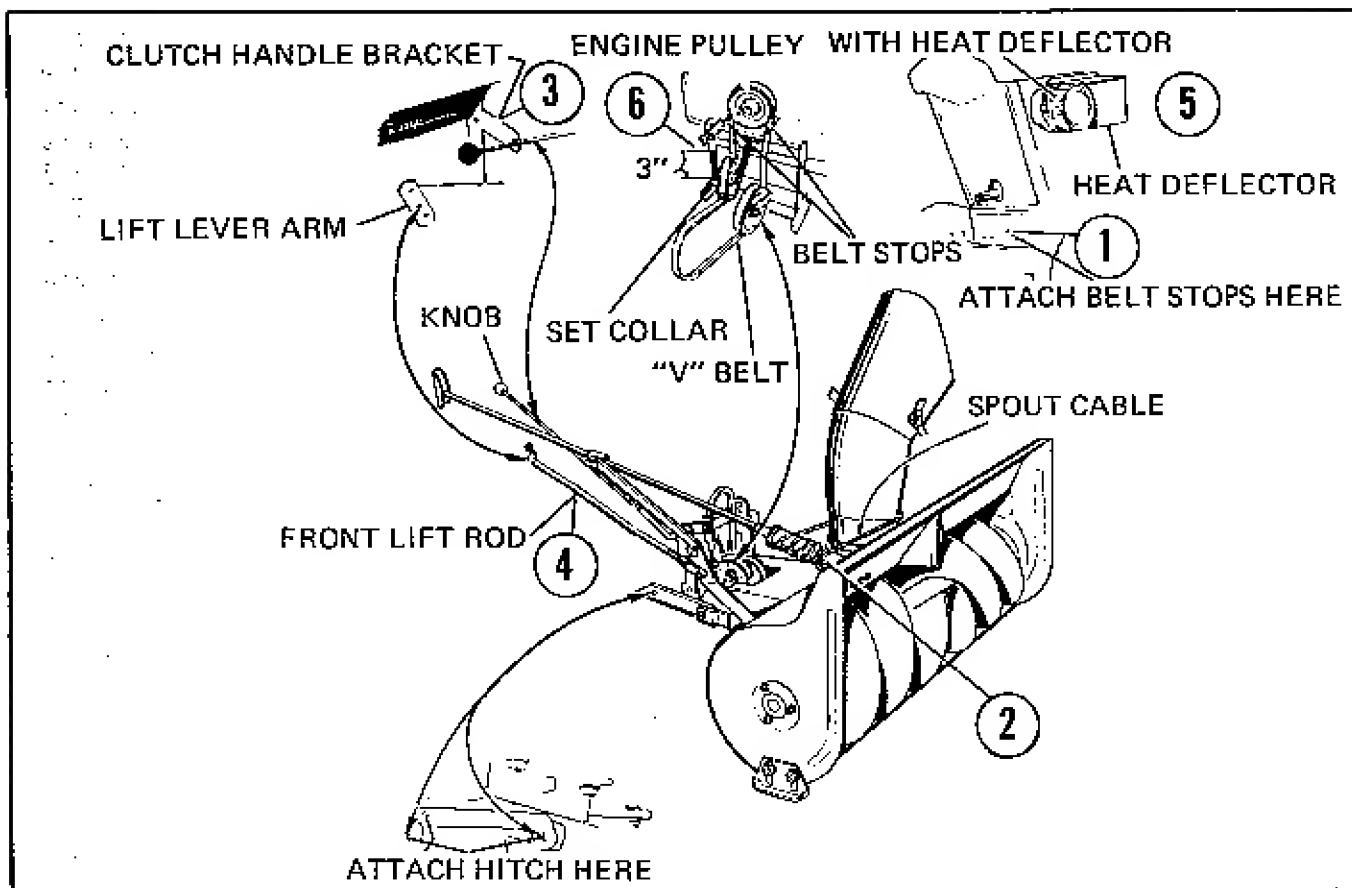
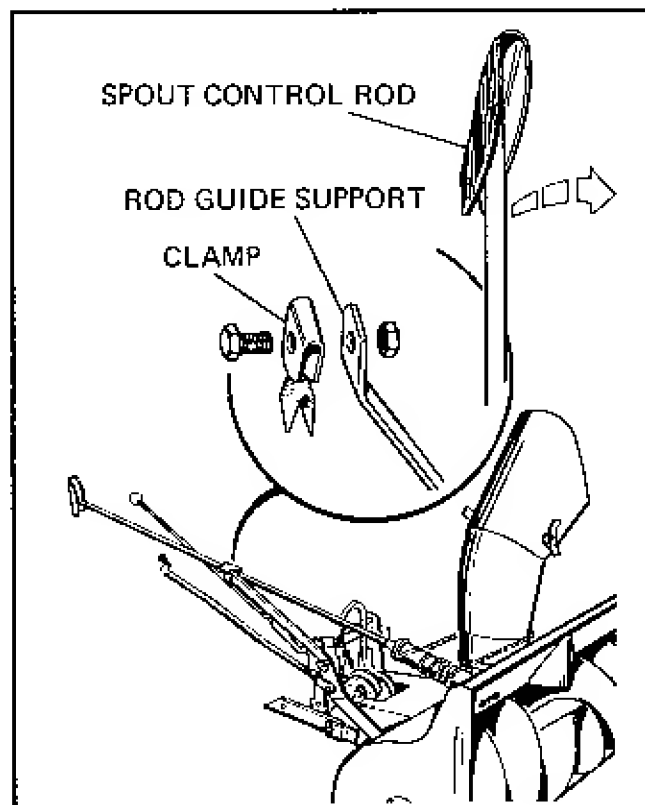

Figure 3.
Figure 4.
4. Remove the 5/16"-18 x 1-1/4" long hex capscrew, lock and plain washer from tractor directly below the front mounted power take-off shaft. Insert through the two belt stops and reassemble. Do not tighten. See (1), Figure 3. Right hand belt stop next to bolt head. Left hand stop next to tractor.
5. Attach hitch assembly to tractor with the two pins and two spring clips. See Figure 3.
6. Place belt around front mounted engine pulley. See Figure 3.
11. Position discharge spout directly forward. Position control tube so the cable clamp faces the side of the spout. Provide 2-1/2 coils on top and 2-1/2 coils on the bottom. The end of the cable closest to operator passes under the tube. The end away from operator passes over the top of tube. See (2), Figure 3. In order to insure tightness of the spout cable, it is helpful to slant the control tube slightly inboard in relation to the rod guide support as shown in Figure 4. Position the free ends of the cable around the spout and clamp securely with the cup washer, 5/16" lockwasher and 5/16"-18 full hex nut. Move the spout control rod back to the rod guide support and secure with the clamp, liner and 5/16"-18 x 1-1/4" capscrew and 5/16"-18 lock nut. Tighten securely to permit spout control rod to be turned with slight pressure applied.
13. Remove forward, top capscrew from right hand side panel. Insert clutch handle bracket between side panel and side member of fuel tank and steering post support assembly. Secure with same capscrew and lockwasher. See (3), Figure 3.
14. Insert clutch control rod through bracket and attach to clutch pivot and secure in place with spring clip. See (3), Figure 3.
15. The lift lever quadrant on the left side of the tractor contains a series of holes and a pin. Place the pin in the foremost hole of the quadrant and secure in place with spring clip. Release the lift lever and place in a forward position. Attach the yoke end of front lift rod to the lift lever arm using lower hole, on the right hand side of the tractor with yoke pin and spring clip. Insert lower end of lift rod into lift arm bracket of push bar and secure with spring clip. The lower end of the front lift rod is to point towards the tractor. See (4), Figure 3.
16. Position heat deflector over the muffler and adjacent to the engine. Flap of deflector to be positioned against air cleaner. Secure with clamp provided. See (5), Figure 3. this deflector is provided for winter use only and must be removed in warm weather to prevent overheating and damaging of engine. The deflector directs a flow of warm air around the carburetor and allows for more efficient winter operation of the tractor engine.
With belt disengaged, the spring (6), Figure 3, should be compressed to 3". Additional adjusting must be done by re-positioning the set collar located at the bottom of the spring. If adequate belt slack cannot be obtained, only then is it recommended to re-position the bearing housing (Ref. Let. AJ Page 8) towards operator.